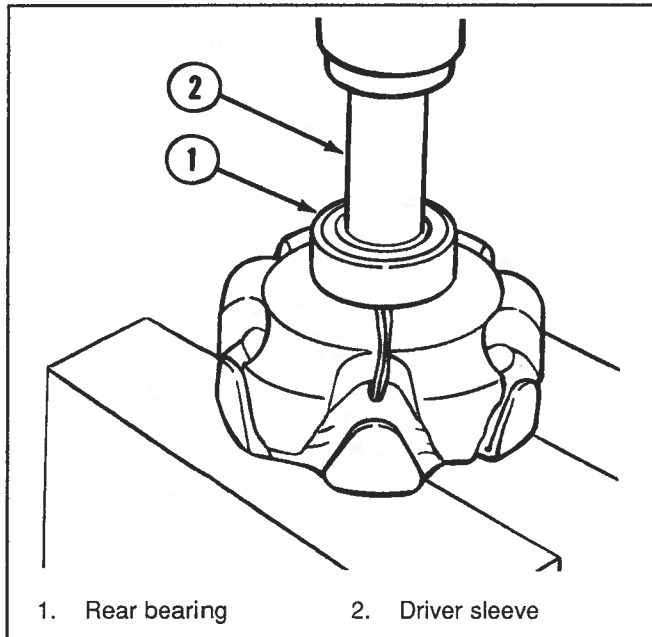

Figure 6-82. Installing Rear Bearing On Rotor
1. Place the rotor assembly on suitable blocks (Figure 6-82). Make sure wire leads are in the groove of the shaft. Press the rear bearing onto the shaft using a driver sleeve, pressing against the inner race only. Seat the bearing firmly against the shaft shoulder.